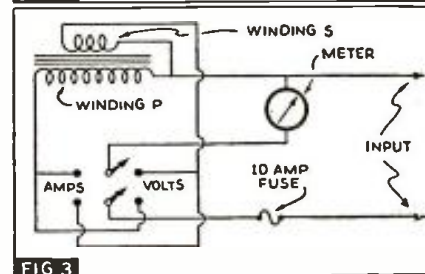

FIG 3
(1) Band B					Mechanically adjust dial pointer to first line at left-hand end of dial scale with condenser gang fully meshed. Connect output meter across voice coil.
(2) Band C	6 mc. Modulated	Bass	Antenna Post**	Osc. (C6) Ant. (C3)	Set pointer to 6 mc. mark and align C6. Peak C3 for maximum output.
(3) Band D	21 mc. Modulated	Bass	Antenna Post**	Osc. (C7) Ant. (C4)	Set pointer to 21 mc. mark and align C7. Peak C4 while rocking gang condenser. The image of any signal on the "D" band should be 910 kc. below input signal. Example: 15 mc. image 14.09 mc.
(4) Band B	580 kc. Modulated	Bass	Antenna Post***	Osc. Padder (C8)	Set dial pointer to 580 mc. mark and tune in signal with C8.
(5) Band B	1,500 kc. Modulated	Bass	Antenna Post***	Osc. (C5)	Adjust C5 for maximum output in vicinity of 1,500 kc. while rocking gang condenser.
(6) Band B	580 kc. Modulated	Bass	Antenna Post***	Osc. Padder (C8)	Retrim C8.
(7) Band B	1,500 kc. Modulated	Bass	Antenna Post***	Osc. (C5)	Repeat C5.
***Use an I.R.E. "dummy" antenna as shown in Fig. 3 between signal generator and the point of input.
A combination of the 2 arrangements is shown in Fig. 3 using a D.P.D.T. switch to make the changeover from one set-up to the